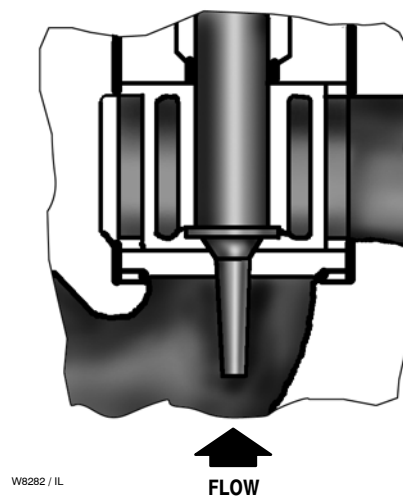

Figure 2. Micro-Flow Trim
**(A)— Micro-Flow™**—Ultra low flow control. Linear flow characteristic. Plug-characterized, port-guided. Gas and liquid applications. See figure 2.
Micro-Flow trim (figure 2) provides linear ultra low flow control in gas and liquid applications. Typical application for this trim is flow up, 0.1875 inch port diameter, and 0.75 inch travel.